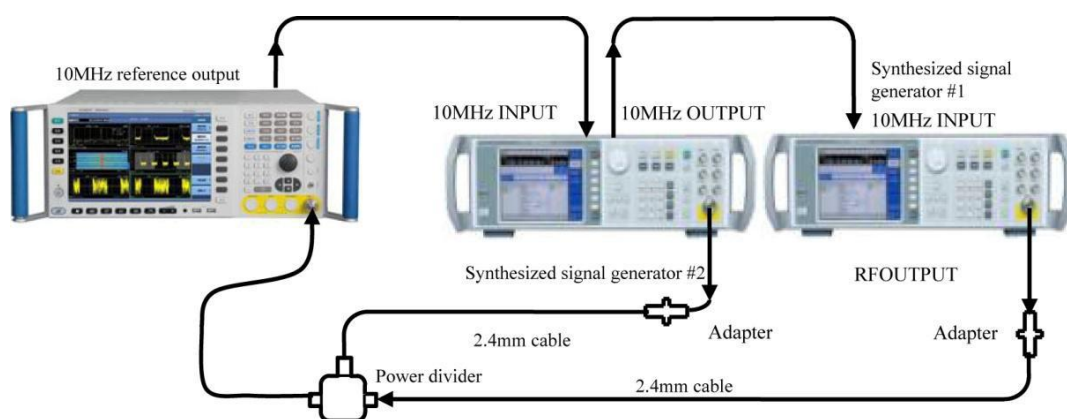

Fig. 8.6 Schematic diagram of maximum analysis bandwidth test
- 1) Connect the tested instrument as shown in Fig. 8.6 and reset the S3503 analyzer.